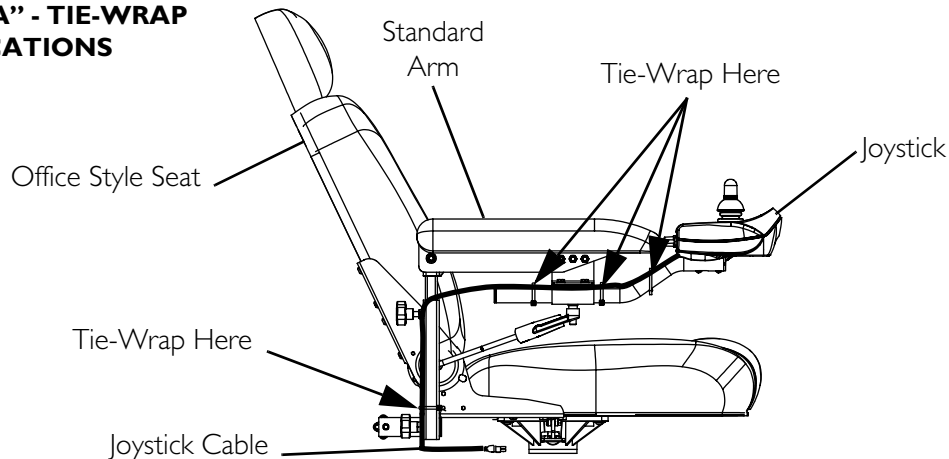

FIGURE 13.1 Removing/Installing the Joystick
NOTE: For this procedure, refer to FIGURE 13.1 on page 119.
3. Loosen the adjustment lock lever to release the joystick mounting tube from the mounting bracket. Refer to FIGURE 13.1.
3. Tie-wrap the joystick cable to the arm as shown in FIGURE 13.1.